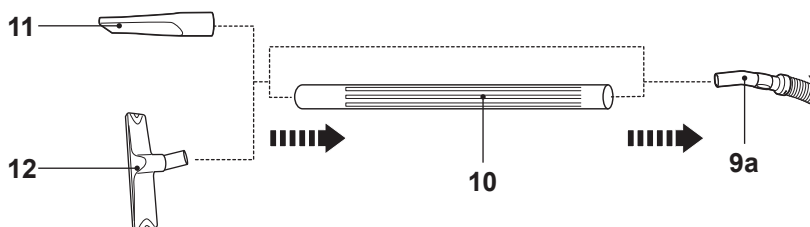

Fig. 15
- > Connect the extension tube(s) (10) and / or accessory (11, 12) onto the hose handle (9a) if required (Fig. 15).